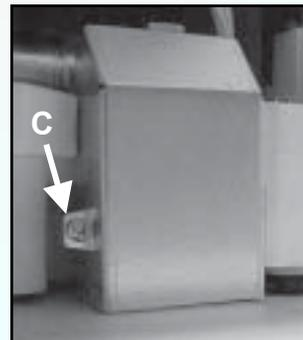

Figure 13
- 1) Remove the junction box cover by removing the screw on the left side of the junction box, as shown in Figure 13, letter C, and lifting the junction box cover up and off.